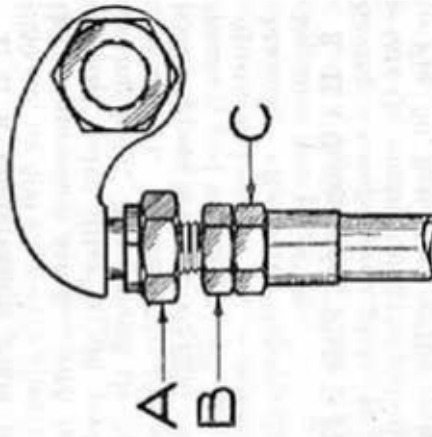

FIG. 56. TAPPET ADJUSTMENT ON
Detach the cover from the off-side of the rocker-box (see Fig. 64) after removing the three retaining nuts and fibre washers. This exposes the inlet and exhaust tappet adjustment. As may be seen in Fig. 56, each push-rod has an adjustable head *A* secured by a lock-nut *B* to the top of the push-rod *C*.
1. If a Compression Plate is Not Fitted. Turn the engine (350 c.c. or 500 c.c.) over slowly until the piston is at T.D.C. on the compression stroke, with both valves closed. See that the exhaust valve lifter is not preventing the exhaust valve from seating fully. Then check the tappet clearance for both tappets (see above). Referring to Fig. 56, if an adjustment of either or both tappets is required, hold the top of the push-rod *C* with one spanner, and with another loosen the lock-nut *B*. Then screw the adjustable head *A* up or down until a tappet clearance of *nil* is obtained. Afterwards tighten the lock-nut *B* and again check the clearance (see page 136).
2. If a Compression Plate is Fitted. On 1945-8 500 c.c. engines having a compression plate, to adjust the tappet clearance, first rotate the engine until the exhaust valve lifts off its seat. Referring to Fig. 56, first slacken the lock-nut *B* on the exhaust push-rod *C*. Next rotate the engine until the inlet valve is lifted off its seat. Loosen the lock-nut *B* on the inlet push-rod *C*. Then screw the adjustable head *A* of the exhaust push-rod up or down as required to obtain a clearance of *nil*. Further rotate the engine until the exhaust valve is lifted off its seat. Now tighten the lock-nut *B* on the exhaust push-rod. Afterwards screw up or down as required the adjustable head *A* on the inlet push-rod *C* until tappet clearance is *nil*. Again rotate the engine until the inlet valve is raised, and tighten the lock-nut on the inlet push-rod.